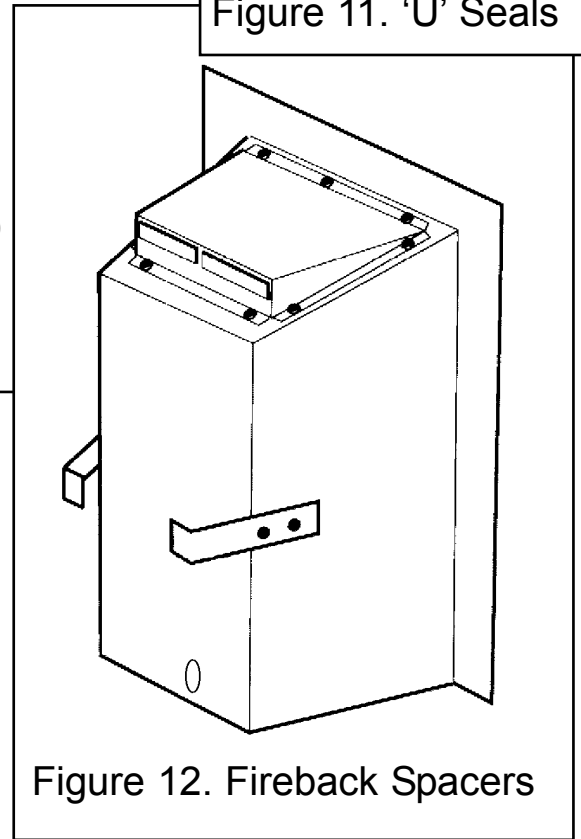

Figure 12. Fireback Spacers
**5.** The appliance is supplied with two fireback spacers. **Do not fit the fireback spacers if the fire is to be installed into a precast or clay flue block system as in section 3.2.3.** These should extend backwards to ensure sufficient clearance from the back of the fireplace. Remove the label and retaining screws from the rear sides of the convection box. Position the fireback spacer as shown in figure 12. Secure the fireback spacers using the screws removed previously and the two supplied with the fire.